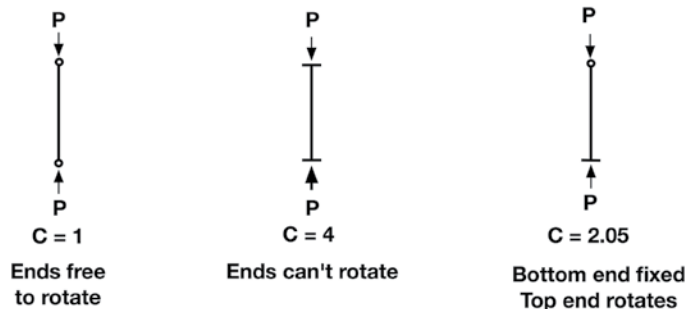

Figure 2: End fixity conditions and the associated column stability constants.
Figure 2 shows a few of the more common end fixities and the numeric value of C (sometimes the lower-case c is used), the symbol for fixity in column analysis. There's an important gotcha buried in these, though, and that's the question of how rigid is the actual fixed end? Will it maintain its rigidity as the load increases? Is it part of a larger structure, such as a welded truss, in which all the elements might be loaded, and in which the whole joint is rotating because of that? That's a particularly sneaky way for what looks like a fixed end to actually be a pin end. In structural analysis, we have to be certain that we don't error on the side of weakness or possible failure. Therefore, if we haven't made certain that the fixed ends are actually rigid, we should assume that they are pinned.
- C is the fixity from Figure 2, no units